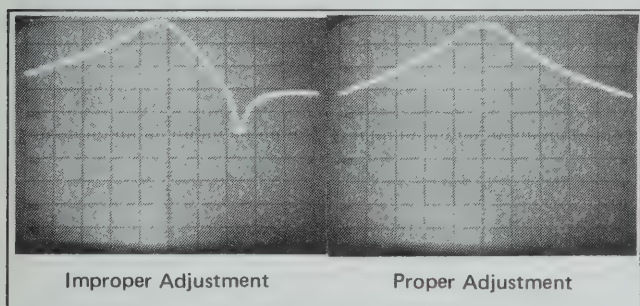

Figure 5-5. Symmetry Adjustment
f. Adjust A5C15 (STAGE 5 PEAK RESPONSE ADJ.) to move the peak to the center of the CRT screen. Recheck Step 3 and adjust A5C14 and A5C15 if necessary. See Figure 5-5 for a properly adjusted display.